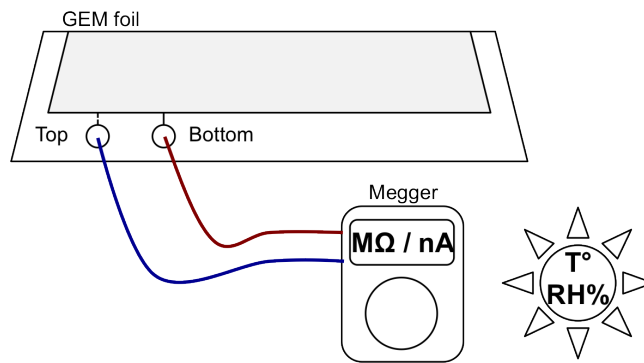
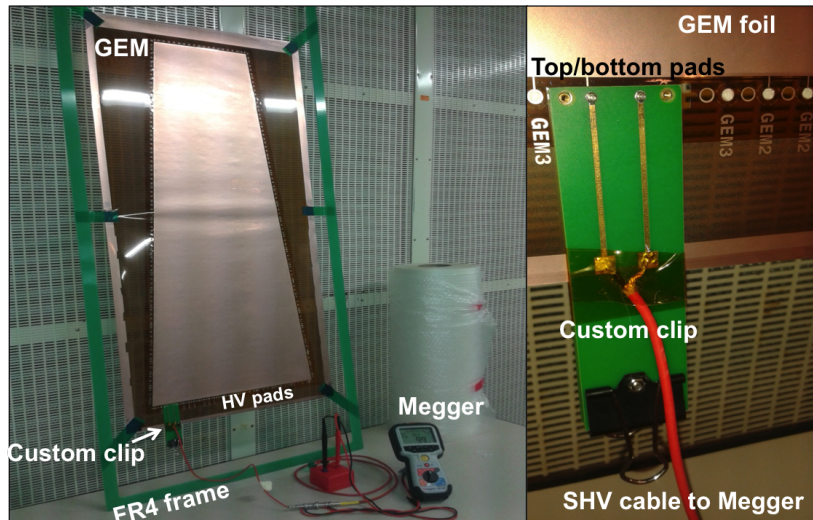

Figure 2.3: Schematic view of the QC2 fast test setup (acceptance test I).
Figure 2.4: Picture of the QC2 fast test on a GEM foil (acceptance test I).
QC2 fast test is performed with a Multi Mega-ohmmeter (e.g. Insulation Tester MEGGER MIT485 by RECOM Electronic AG), also called Megger, connected to the GEM top and bottom HV pads (see Fig. 2.3). The connection between the Megger and the GEM electrodes is done using custom HV clips shown on Fig. 2.4.
1. Place the foil and its frame in vertical position against a wall of the clean room (see Fig. 2.4).
2. Connect the Megger to the GEM HV pads with the custom clip (see Fig. 2.4).
3. Fix the custom clips to the HV pads to each foil (see Fig. 2.4).